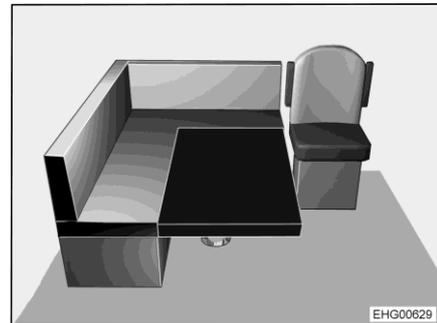

Fig. 70 After conversion
- Insert the additional cushion onto the table as shown in Fig. 70. The rounded corner faces to the front right.